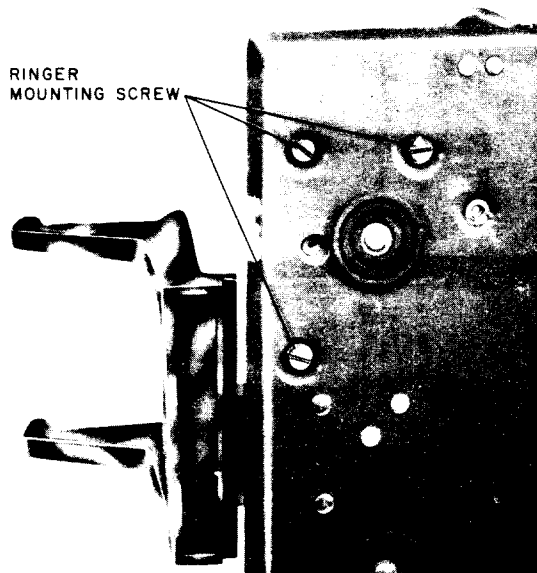

Fig. 6—Location of Mounting Screws for N1A Ringers
- (1) Remove housing.
- (2) Loosen dial mounting plate and move to left.
- (3) Disconnect ringer leads.
- (4) Remove ringer mounting screws as shown in Fig. 6 or 7.
- (5) Lift out ringer.